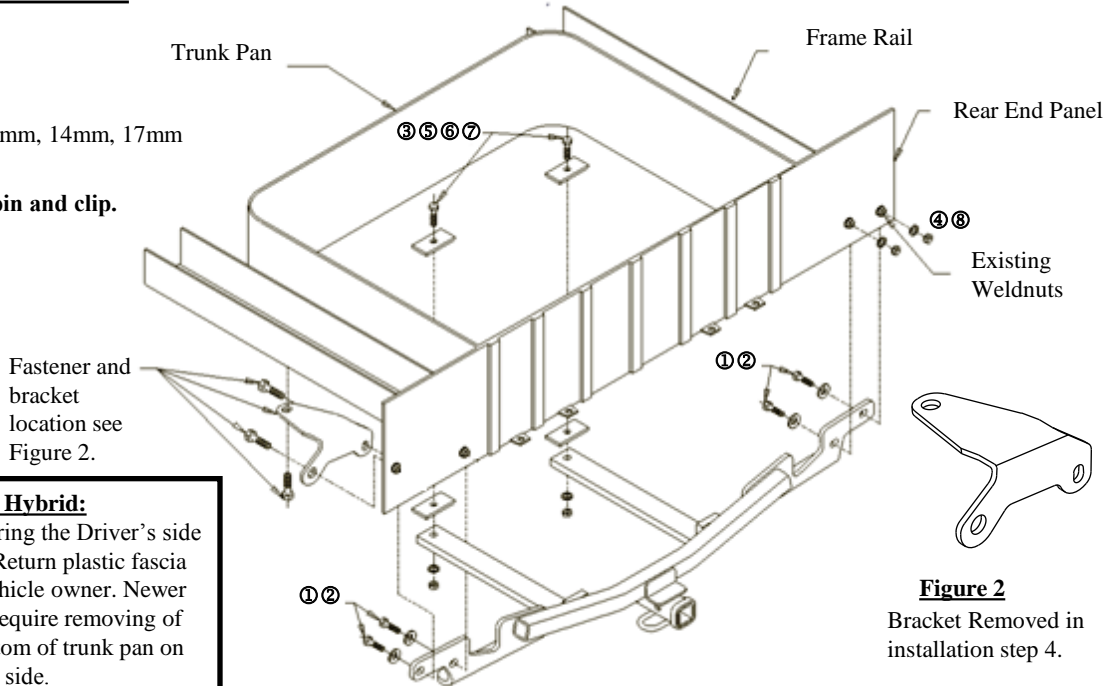

Figure 2
①	Qty. (4)	M10 X 40 X 1.25 CL8.8 Hex Bolt	⑤	Qty. (4)	Block 1/4 X 1.50 X 3.00
②	Qty. (4)	3/8" Conical Toothed Washer	⑥	Qty. (2)	1/2" Lockwasher
③	Qty. (2)	1/2-13 X 2.00 GR 5 Hex Bolt	⑦	Qty. (2)	1/2" Hex Nut
④	Qty. (2)	M10 X 1.25 Hex Nut	⑧	Qty. (2)	7/16 Washer
4. Remove the existing bracket shown in Figure 2 from the driver's side vehicle frame rail and the rear end panel and return to vehicle owner.
5. Raise hitch into position and install the M10 Hex bolts and the 3/8" conical toothed washers into the existing weldnuts in the vehicle. If no weldnuts are present on the passenger side, then use the nuts and washers provided. (④, ⑧)